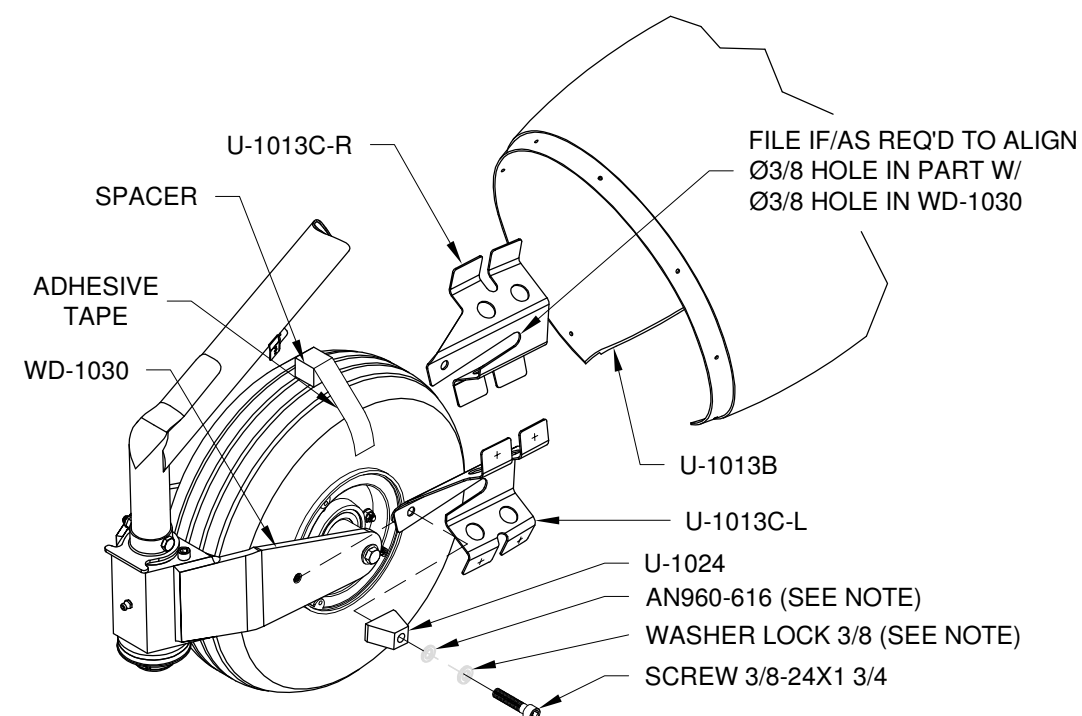

FIGURE 2: ATTACHING THE BRACKETS AND THE WHEEL FAIRING
Step 2: Tape the spacer to the top of the tire as shown in Figure 2. Slide the U-1013C-R Nose Wheel - Fairing Bracket onto the axle at the gap in the washer stack-up and then bolt it to the WD-1030 Nose Fork using the hardware shown. **NOTE: Omit the two washers until the access hole is drilled.** Slide the U-1013B Wheel Fairing Rear into place. Slide the U-1013C-L Nose Wheel - Fairing Bracket into place between the wheel fairing rear and the nose fork bolting it to the nose fork as per the callouts.